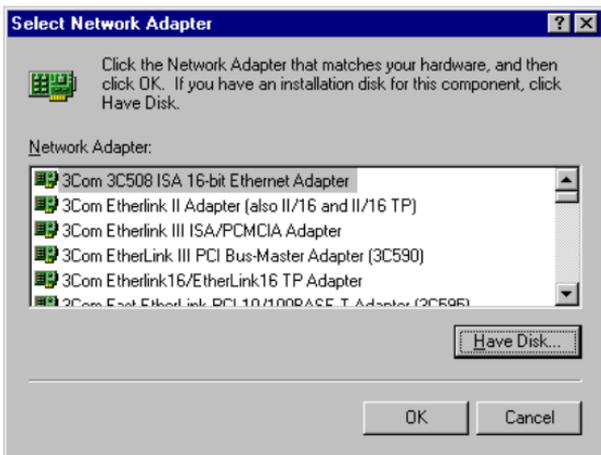

Figure 5.3 Select Network Adapter Window
4. Click **Add** to add a new adapter, the window, Figure 5.3, popped up.